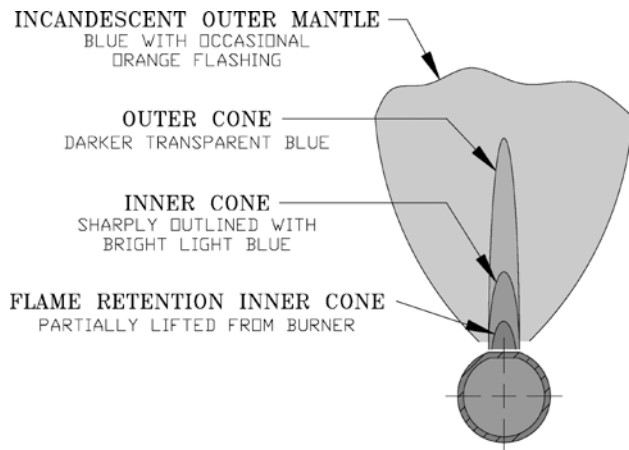

Figure 20: Main Burner Flame
- G. Check main burner flame.** See Figure 20. Flame should have clearly defined inner cone with no yellow tipping. Orange-yellow streaks should not be confused with true yellow tipping.